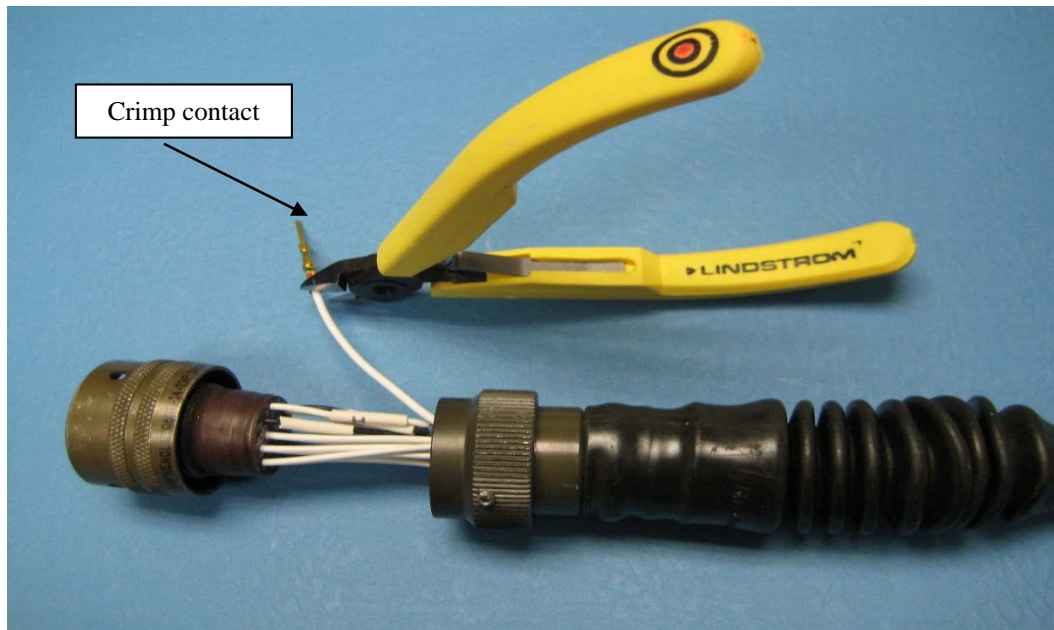

Figure 2-6
- Crimp contacts must be cut off, shortening the wires. Cut the wire as close to the contact as possible (Figure 2-6).